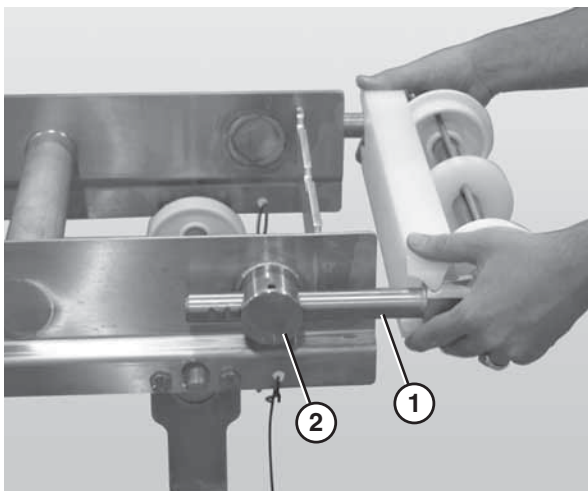

Figure 66
2. Slide the idler tail assembly (**Figure 66, item 1**) out of the take up blocks (**Figure 66, item 2**).